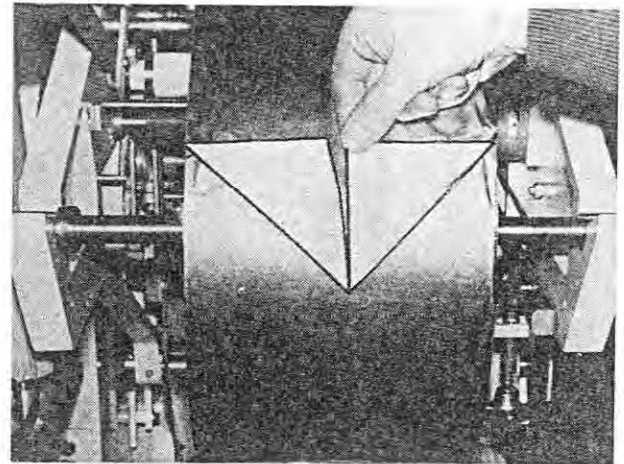

Fig. 99
13. To thread in the wrapper easily, fold it as shown in Figure 99.